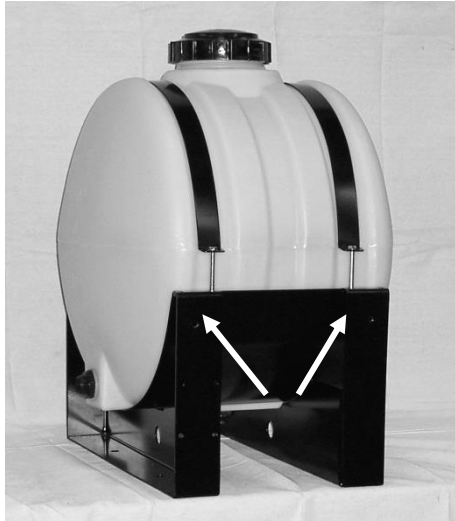

Figure 13
1. Locate mounting weld nuts on saddle as shown in Figure 13.